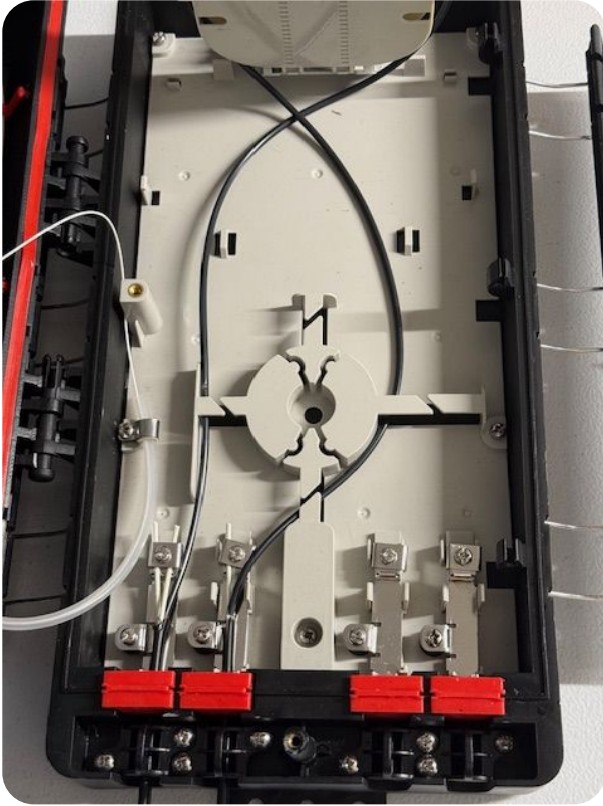

Fig. 8i
- Route buffer tubes as shown – Note buffer tubes cross as shown in Fig. 8i. Buffer tubes should extend onto the splice tray and be secured with a tie wrap as shown in Fig. 8j.